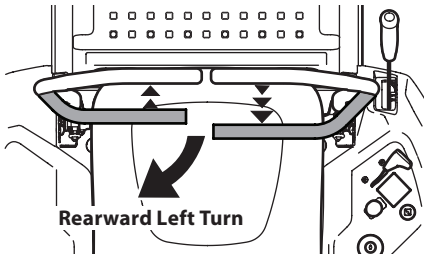

Figure 26
1. To turn to the left while traveling in reverse, move the left drive control lever forward of the right drive control lever. See Figure 26.